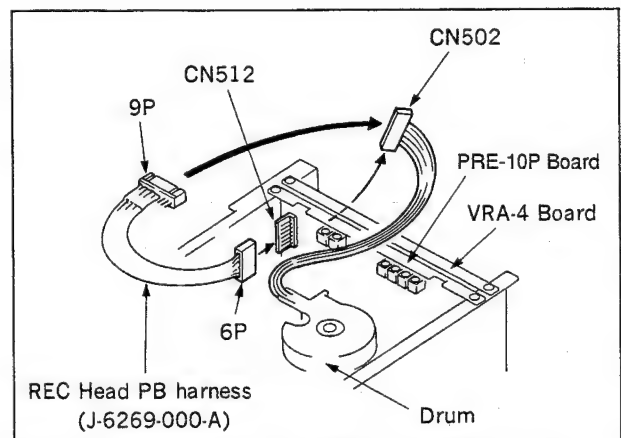

Fig. 6-9-1 Connection of REC head PB harness
2. Disconnect a connector CN502 on VRA-4 board, and connect 9-pin side of the REC head PB harness (J-6269-000-A) to this position. connect the 6-pin connector on the other end of the harness to CN512 on PRE-10P board (refer to Fig. 6-9-1)